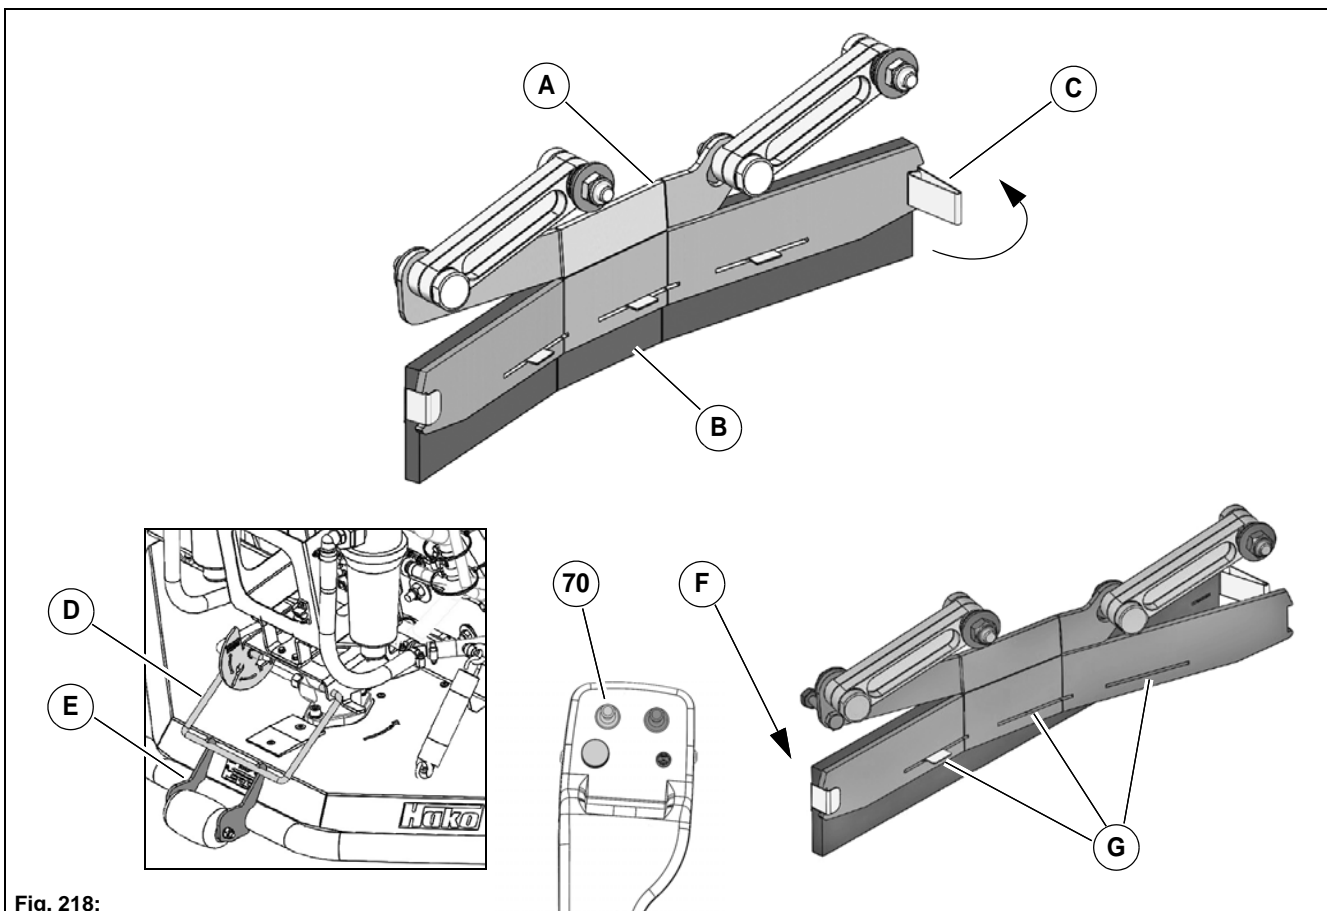

Fig. 218:
Check the lateral deflectors **Fig. 218-A** of the scrubbing deck daily. Turn or replace worn sealing strips **Fig. 218-B**. The sealing strips **Fig. 218-B** and mounting clamps **Fig. 218-C** can be removed without tools.
2. The sealing strip can be removed with the mounting clamps by laterally pulling on the clamp **Fig. 218-C** of the mounting clamps.
4. Insert the sealing strip and the mounting clamps on one side **Fig. 218-F** of the holder. The guide lugs slide into the slots **Fig. 218-G**. This ensures the correct height position.